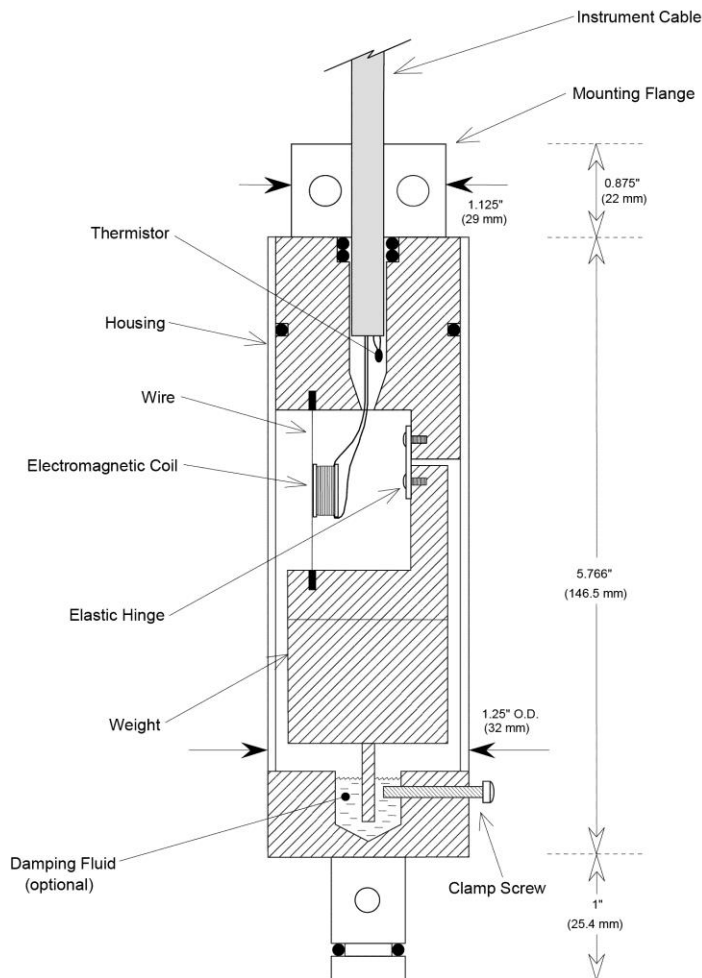

Figure 2 - Model 6350 Tilt Sensor
The sensor comprises a pendulous mass which is supported by a vibrating wire strain gage and an elastic hinge. See Figure 2. The strain gage senses the changes in force caused by rotation of the center of gravity of the mass. The mass and sensor are enclosed in a waterproof housing which includes components for connecting the sensor to the mounting bracket. The housing is constructed using stainless steel tubing to minimize the effects of corrosion. Biaxial systems use a mounting bracket to mount two transducers at 90° to each other. In environments subject to vibrations a damping fluid can be used, as shown in the figure below.
The vibrating wire tilt sensor acts as a self-damping system when used in vibration free environments. When external ground or structural vibrations exceed a certain threshold, the pendulous mass will continue to "swing" and stable readings may not be possible. In such cases, additional damping can be achieved by adding a viscous damping fluid to a small reservoir contained in the sensor. A thin, wide "paddle" is connected to the mass and when the fluid is added the pendulum is damped by the action of the paddle in the damping fluid (see Figure 2).
1. Remove the seal screw on the bottom side of the sensor. See Figure 2.(clamp screw)